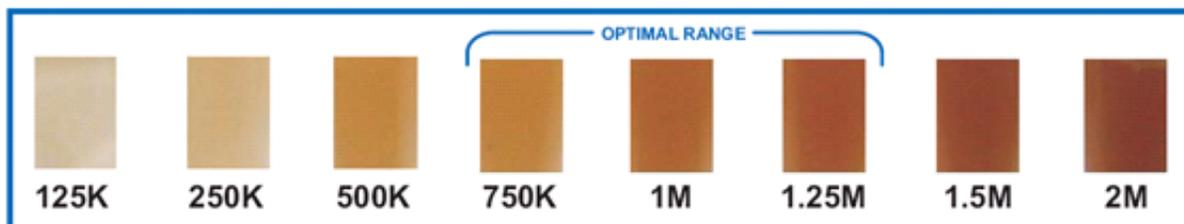
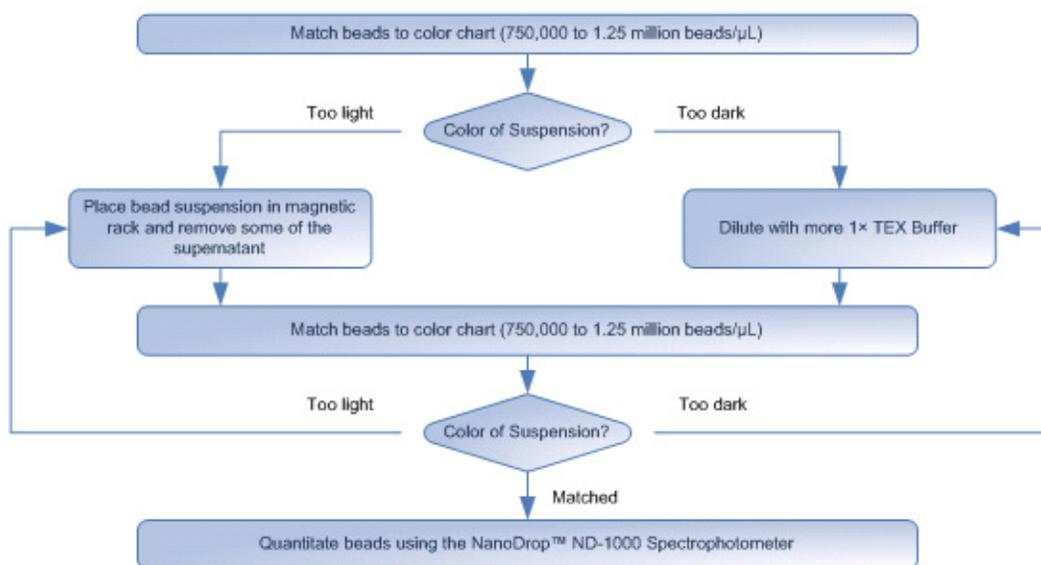

Figure 35 The SOLiD™ Bead Concentration Chart. For best results, use the SOLiD™ Bead Concentration Chart (PN 4415131), supplied separately.
Figure 36 The SOLiD™ Bead Concentration Chart workflow.
3. Use the SOLiD™ Bead Concentration Chart (Applied Biosystems PN 4415131) to estimate the bead concentration of the beads (see Figure 35 on page 75).
4. Adjust the volume of beads so that the color of the bead solution matches a color in the optimal range (750,000 beads/ μL to 1.25 million beads/ μL ; see Figure 35 on page 75 and Figure 36 on page 75).